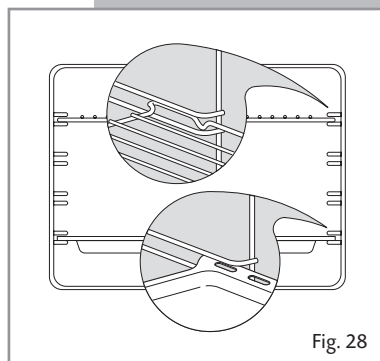

Fig. 28
- Slide the tray and rack into the runners (Fig. 28).